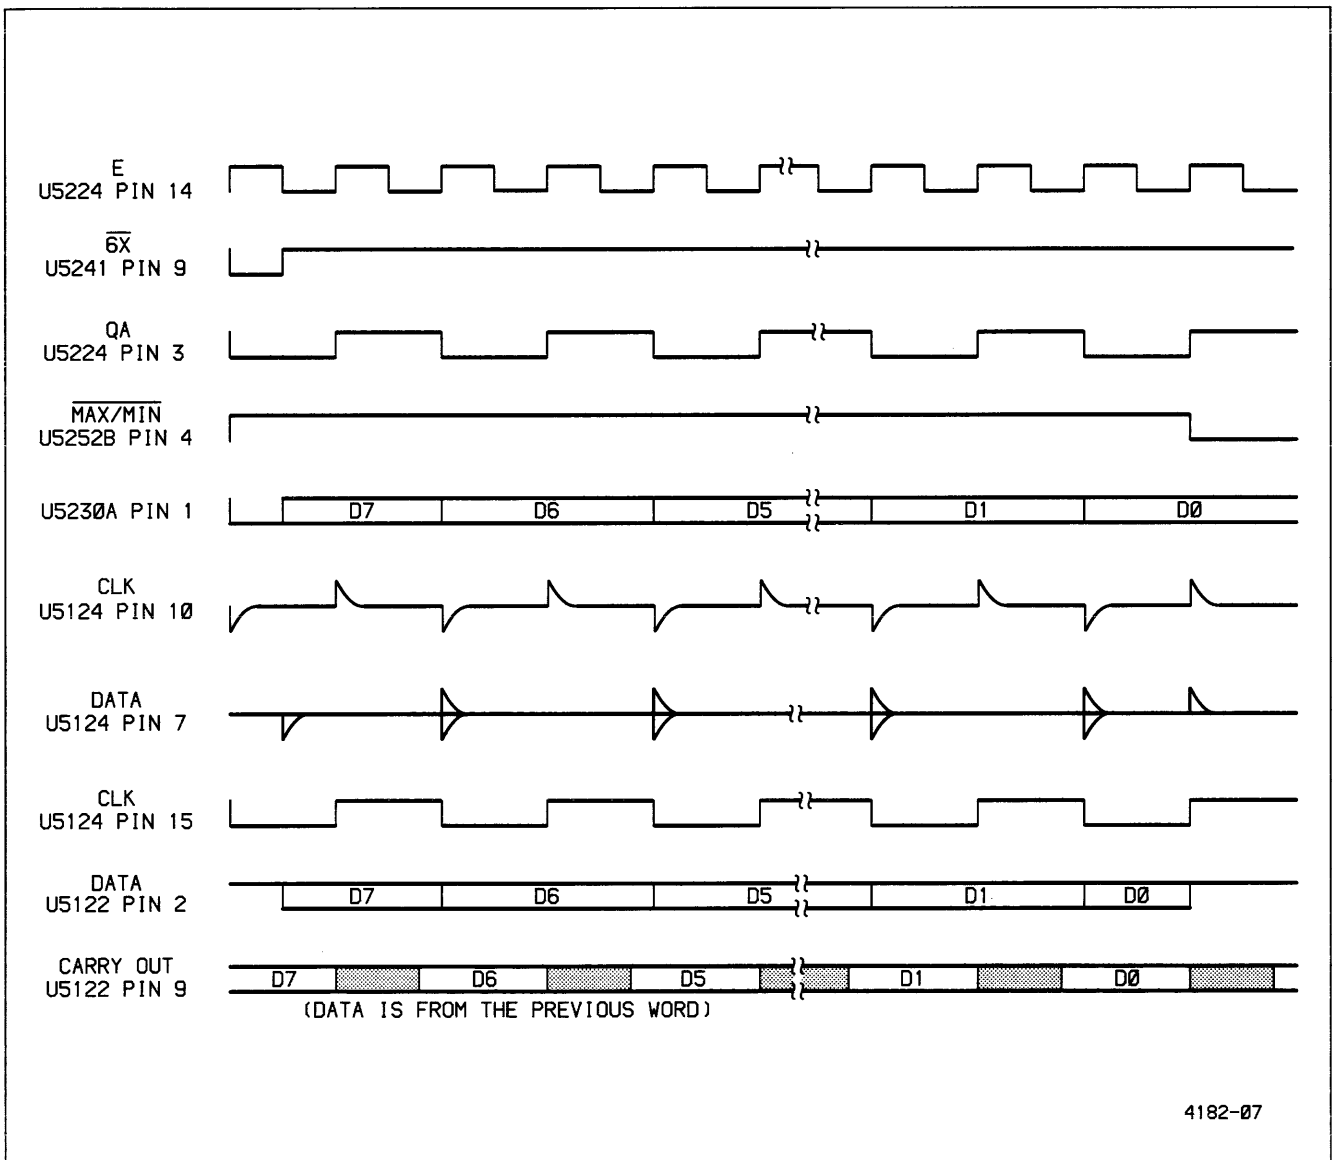

Figure 3-3. Digital Control timing diagram.
**DIGITAL CONTROL.** The Digital Control circuitry stores the hardware (relays and FET switches that determine the measurement path) control words. As explained later, the Register Control circuitry serially shifts the hardware control words to the Digital Control circuitry. Due to transformer coupling in the Register Control circuitry, U5124 only sees the rising and falling edges of the CLK (pin 10) and DATA (pin 7) signals. The signals are reconstructed by line receiver U5124. The reconstructed data is clocked into the 24-bit register by the reconstructed clock signal (see Figure 3-3). Three serial-input parallel-output latches (U5122, U5120, and U4940) make up the 24-bit register. The control signals are buffered and inverted by U5132, U5130, U5010, and Q4950.